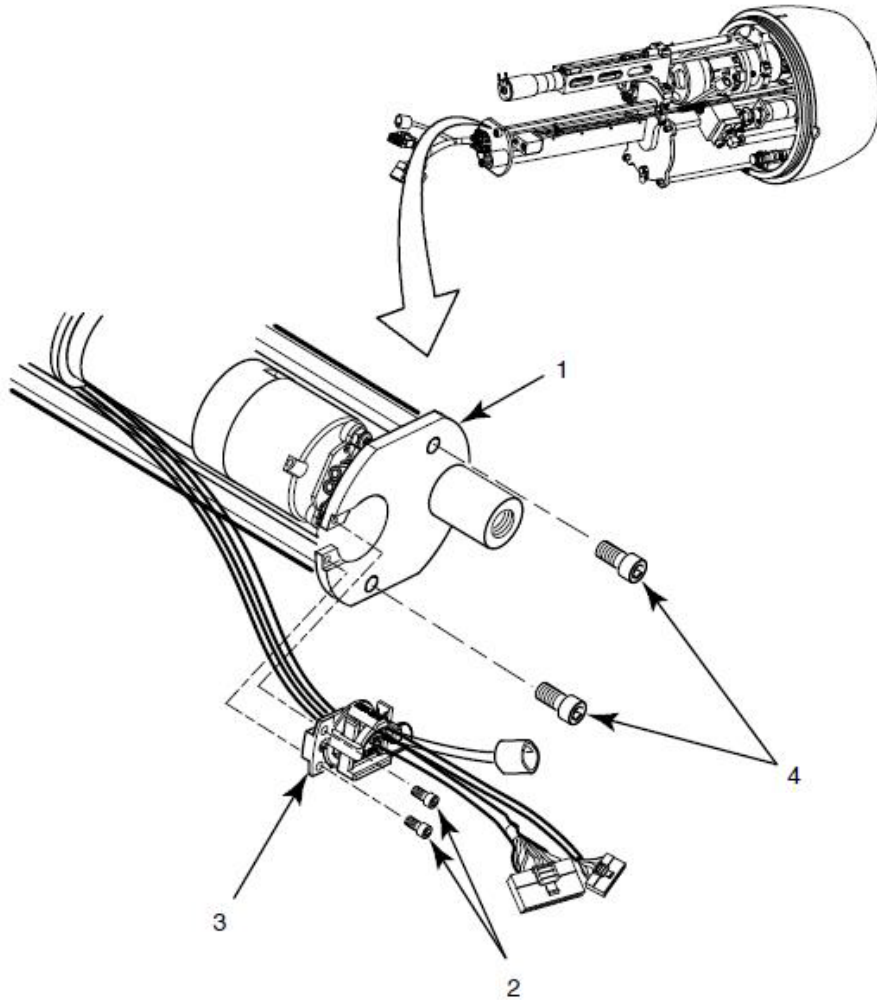

Figure 2-5 Tie rod plate.
1. Remove the two screws (Figure 2-5, Item 2) that attach the ratcheting strain relief bushing (Figure 2-5, Item 3) to the tie rod plate (Figure 2-5, Item 1).
2. Remove the two tie rod plate screws (Figure 2-5, Item 4).
1. Attach the tie rod plate with the two screws (Figure 2-5, Item 4).
2. Install the two screws (Figure 2-5, Item 2) that attach the ratcheting strain relief bushing (Figure 2-5, Item 3) to the tie rod plate (Figure 2-5, Item 1).